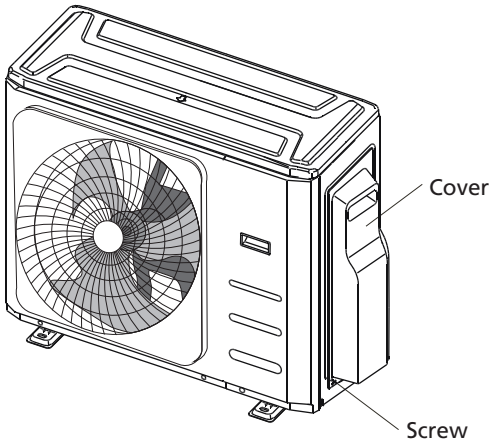

Fig. 8.1
- 2. Remove the electric cover of the outdoor unit. If there is no cover on the outdoor unit, disassemble the bolts from the maintenance board and remove the protection board. (See Fig. 8.1)